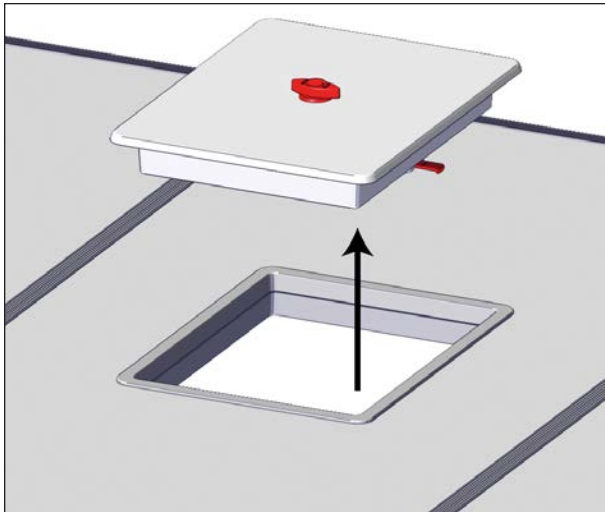

FIGURE 71: REMOVE HATCH
2. Push straight up on the escape hatch and move it to the side, see Figure 71.